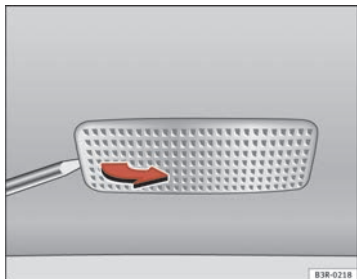

Fig. 243 Removing sun visor light
- Remove the bulb carefully, using the screwdriver on its flat side ⇒ fig. 243.